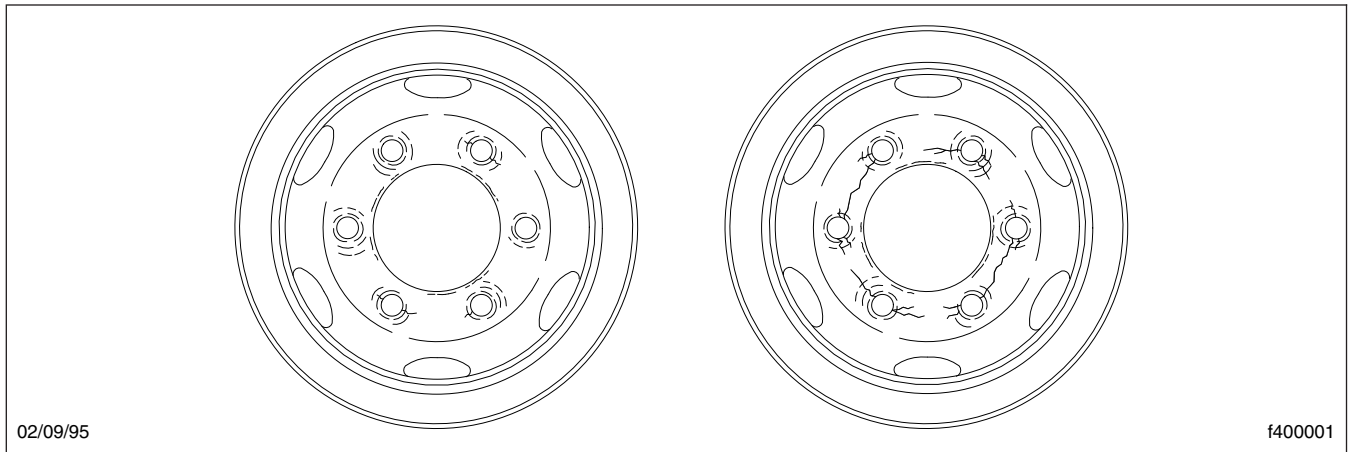

Fig. 23.4, Worn Stud Holes
- 4.2 Inspect for broken, cracked, badly worn, bent, rusty, or sprung rings and rims. See Fig. 23.4.